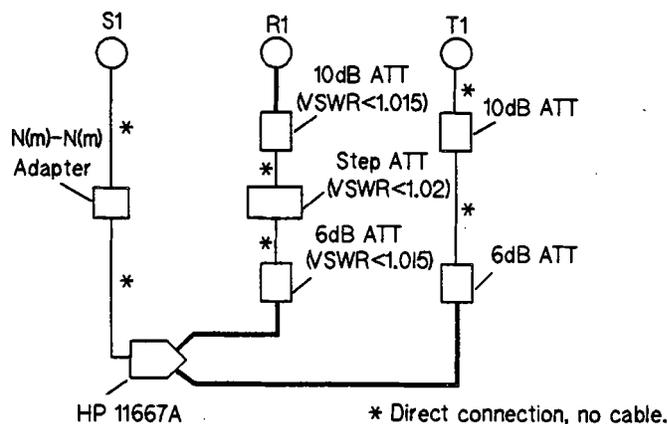

Figure 2-17. Magnitude Ratio/Phase Dynamic Accuracy Test Setup (1 of 2)
3. Connect a Power Splitter, Step Attenuator, and Attenuator Pads to the HP 4195A, as shown in Figure 2-17.